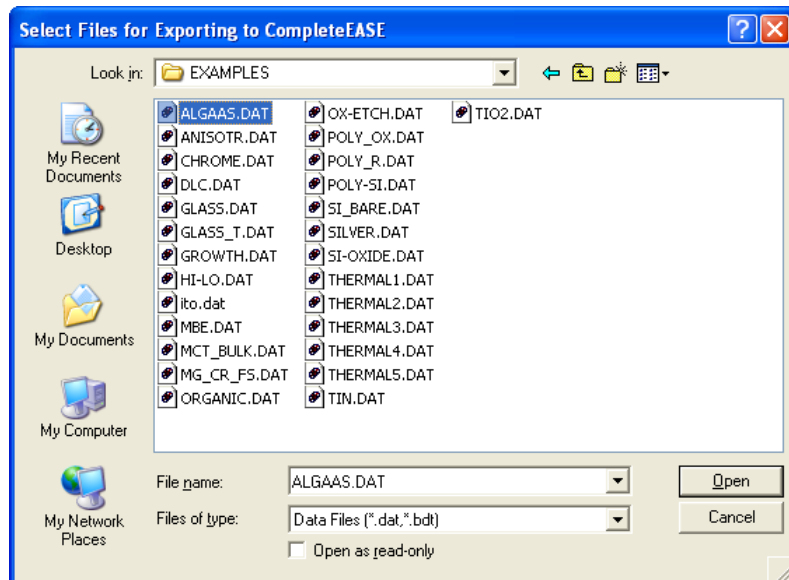

Figure 14-6. Choose WVASE32 data files you wish to export.
2. Browse and select the WVASE32 data files for exporting to CompleteEASE, as in Figure 14-6. Multiple files can be selected.